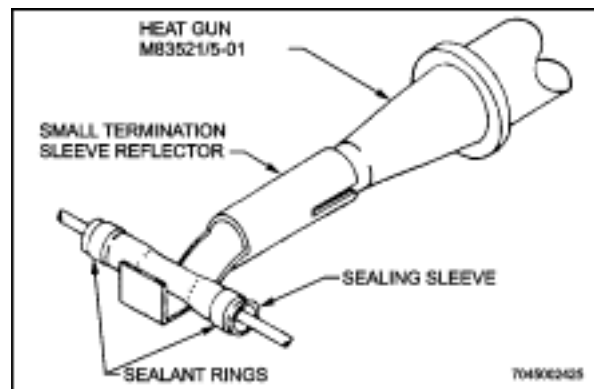

Figure 5-6 Splice Sealing
- n. Shrink sealing sleeve using hot air gun with small termination reflector. Shrink middle first and move heat towards one end until sealant melts and begins to flow out of sleeve (Figure 5-6). Repeat for other end. Allow to cool.